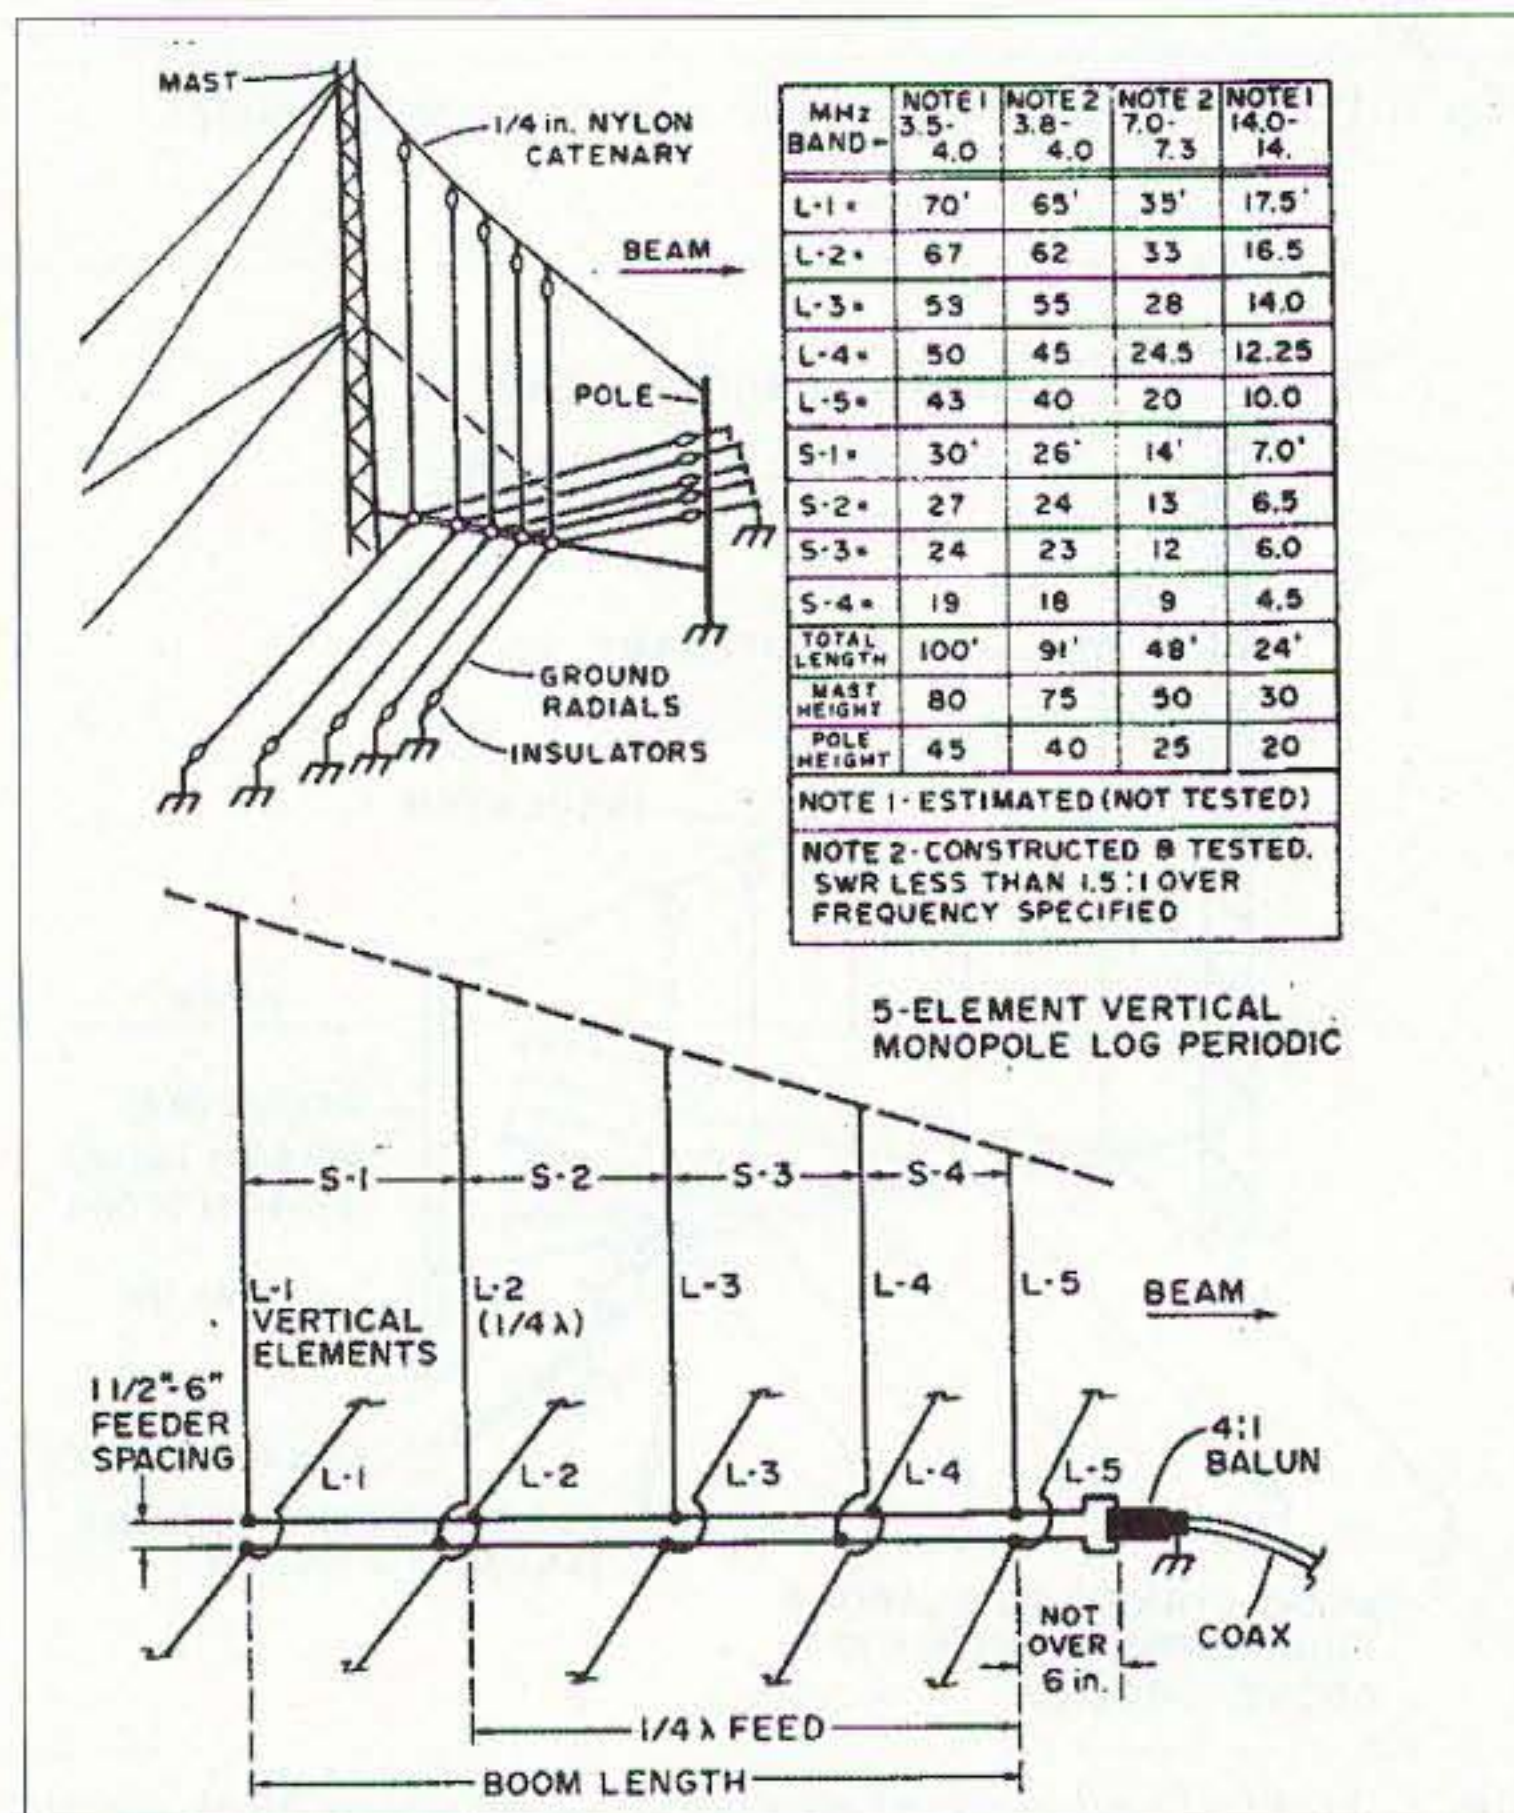

Fig. 10. 5-element vertical monopole log periodic
Similar information on the vertical monopole LPs for 40m and 80m is supplied by **Fig. 10**.
**N**ext, procure the necessary material for the LP selected. **Fig. 9** illustrates the construction or assembly of a typical DLP, and **Fig. 10**, the monopole LP configuration.